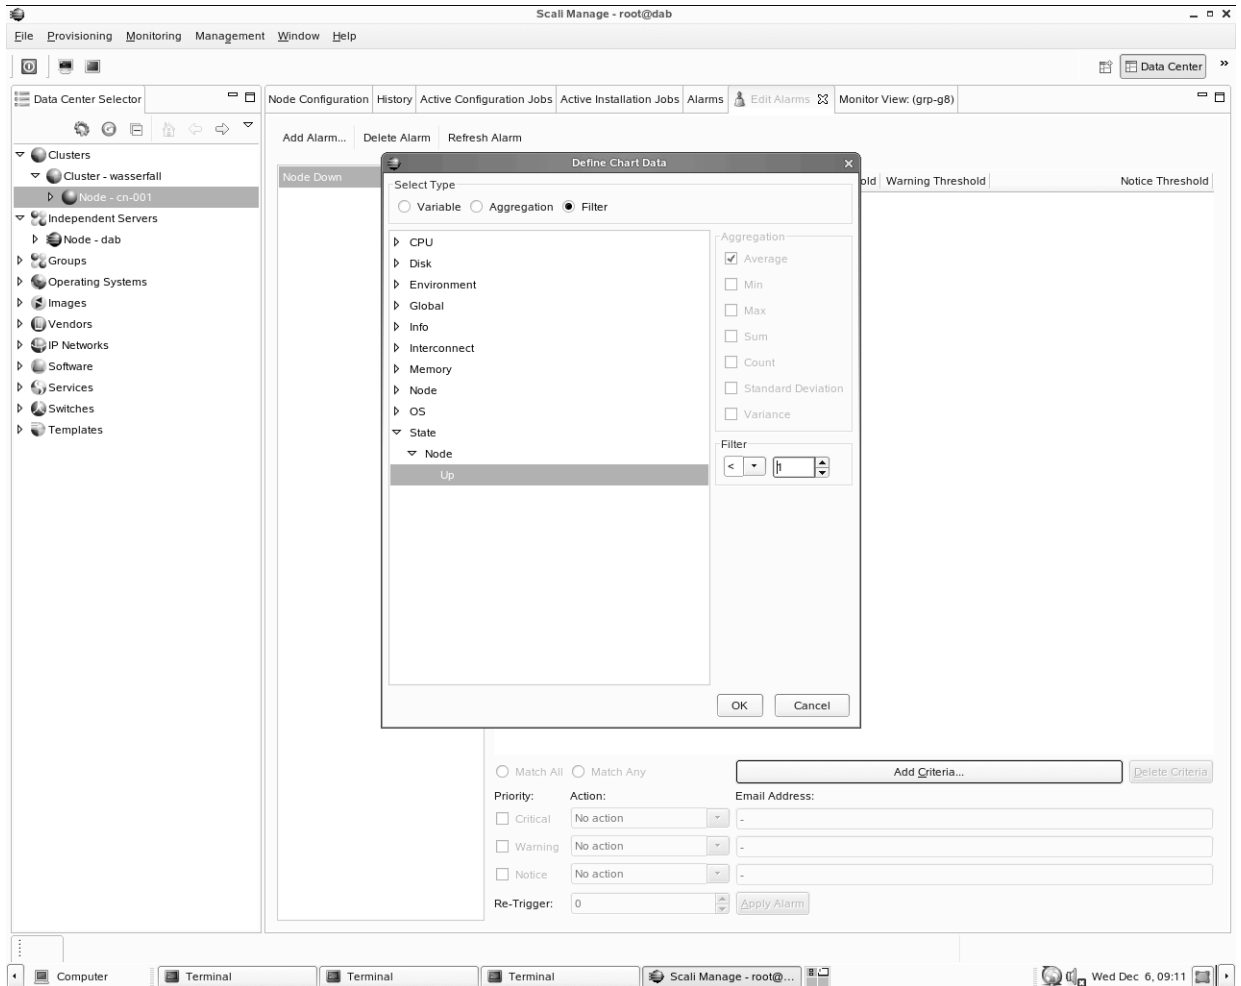

Figure 2-17 Define Chart Data Popup Example (Filter Selected)
7. Another popup presents itself. For this example we picked a “Filter” criteria for the node status. See Figure 2-17 on page 63.